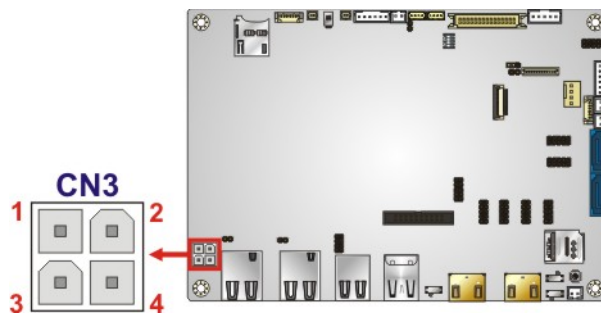

Figure 3-2: 9 V ~ 30 V Power Connector Location
- CN Location:** See **Figure 3-2**